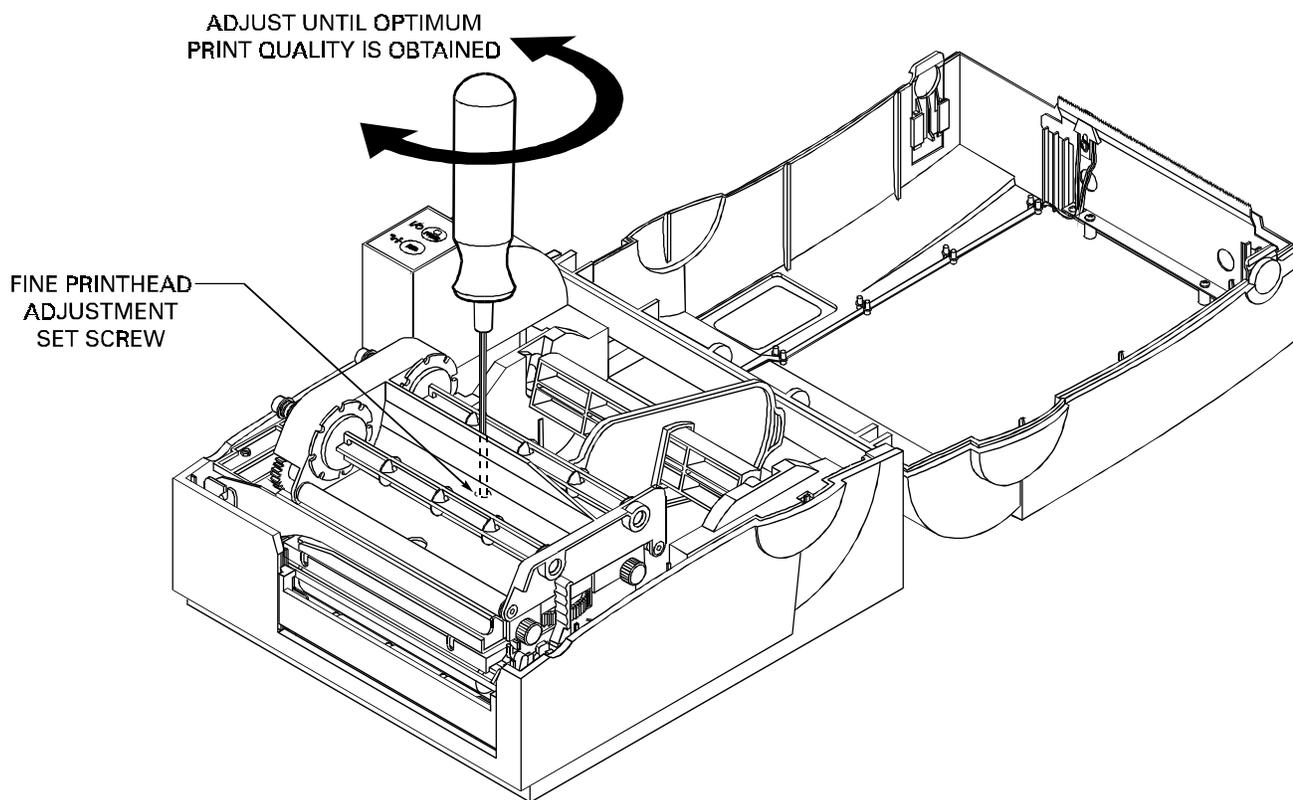

Figure 11. Fine Printhead Adjustment
An Allen set screw is located on top of the Printhead Carrier Assembly that can be adjusted for controlling print quality. **This adjustment is set at the factory and should not need further adjusting.** However, due to a wide variety of media and ribbon that is available, some adjustment may be necessary. To adjust the Printhead, remove turn the set screw until optimum print quality is obtained. Some trial and error may be necessary (see Figure 11).
7. Turn the printer power on and print a configuration label (see Table 2 Power Off Mode \(Communications Diagnostics Mode\)). If print quality needs to be adjusted, refer to Figure 11.